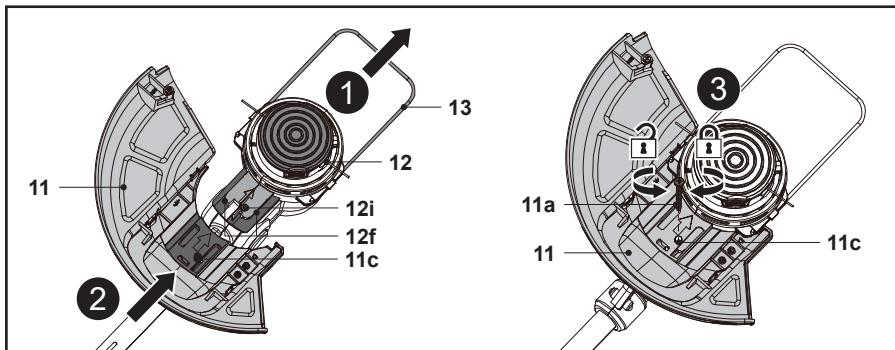

Fig. 1
1. Turn the trimmer head (12) upside down.
2. Put out the plant protector (13) firstly (Fig. 1, step 1), then align and slide the guard (11) onto the sliding slots (12f) of the trimmer head (12) (Fig. 1, step 2). Fully insert the guard (11) and make sure that the screw holes (11c, 12i) are well aligned.
3. Secure the guard (11) with the screw (11a) in clockwise (Fig. 1, step 3).